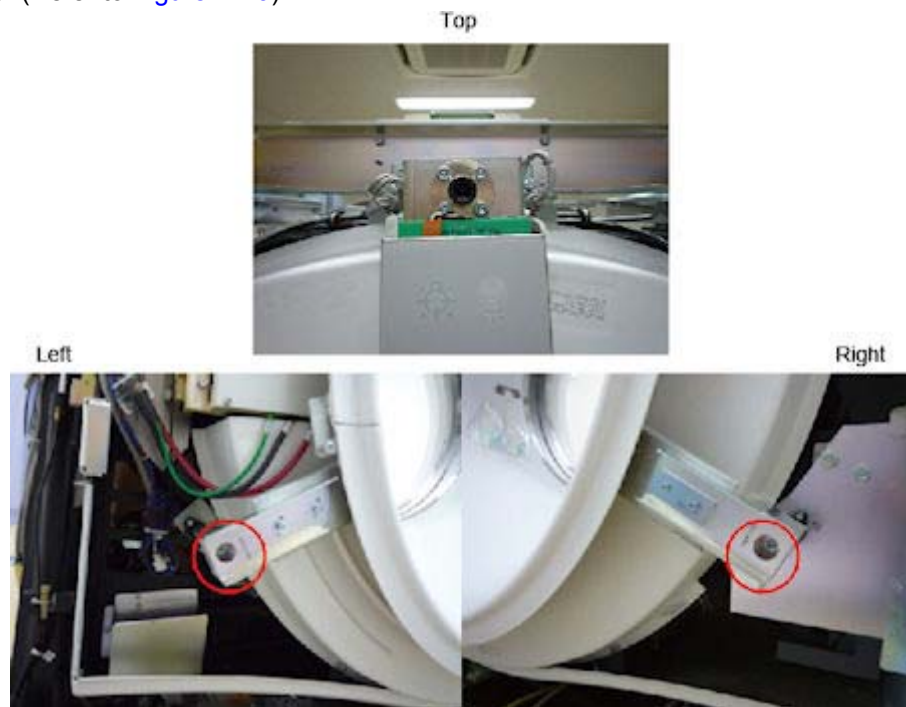

Figure A-29 Screws of Bore Cover
- 4.) Remove the 2 screws located at two bottom brackets of the bore cover. Then loosen the screw on top. (Refer to Figure A-29)